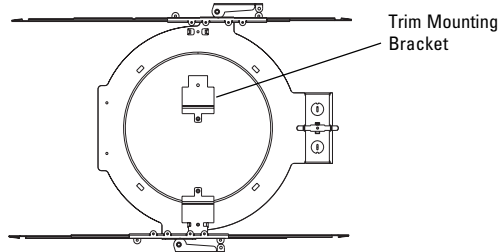

Figure 1
1. Slide both trim mounting brackets under lanced up tabs on the mounting frame as shown in Figure 1. Brackets may be secured to the mounting frame by screws or rivets (not supplied). **NOTE: REMOVE AND DISCARD FRICTION SUPPORT CLIPS FROM MOUNTING FRAME IF PRESENT.**